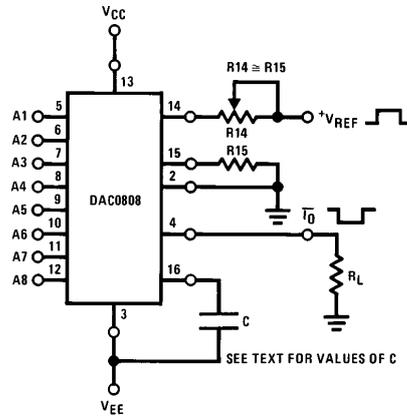

FIGURE 7. Positive  $V_{REF}$  (Note 7)
**Curve A:** Large Signal Bandwidth Method of Figure 7,  $V_{REF} = 2\text{ Vp-p}$  offset 1 V above ground.
**Curve B:** Small Signal Bandwidth Method of Figure 7,  $R_L = 250\Omega$ ,  $V_{REF} = 50\text{ mVp-p}$  offset 200 mV above ground.
The reference amplifier provides a voltage at pin 14 for converting the reference voltage to a current, and a turn-around circuit or current mirror for feeding the ladder. The reference amplifier input current,  $I_{14}$ , must always flow into pin 14, regardless of the set-up method or reference voltage polarity. Connections for a positive voltage are shown in Figure 7. The reference voltage source supplies the full current  $I_{14}$ . For bipolar reference signals, as in the multiplying mode,